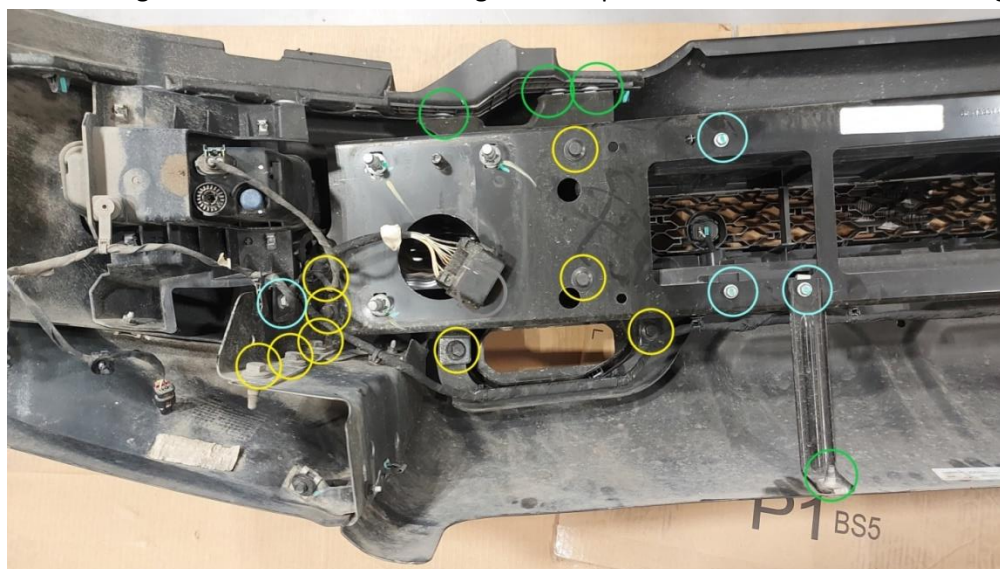

Figure 1
5. To access the grill shutter assembly, you first need to remove the bumper primary mounting bracket. To do this you will have to remove on each side : 9x 13mm head bolts (Yellow), 4x Torx Bolts (Green), and 4x 10mm Bolts (Blue) shown in **Error! Reference source not found.** below. Pry off the harness from main bumper mounting surface and remove it along with the plastic dam behind it. Refer to Figure 1